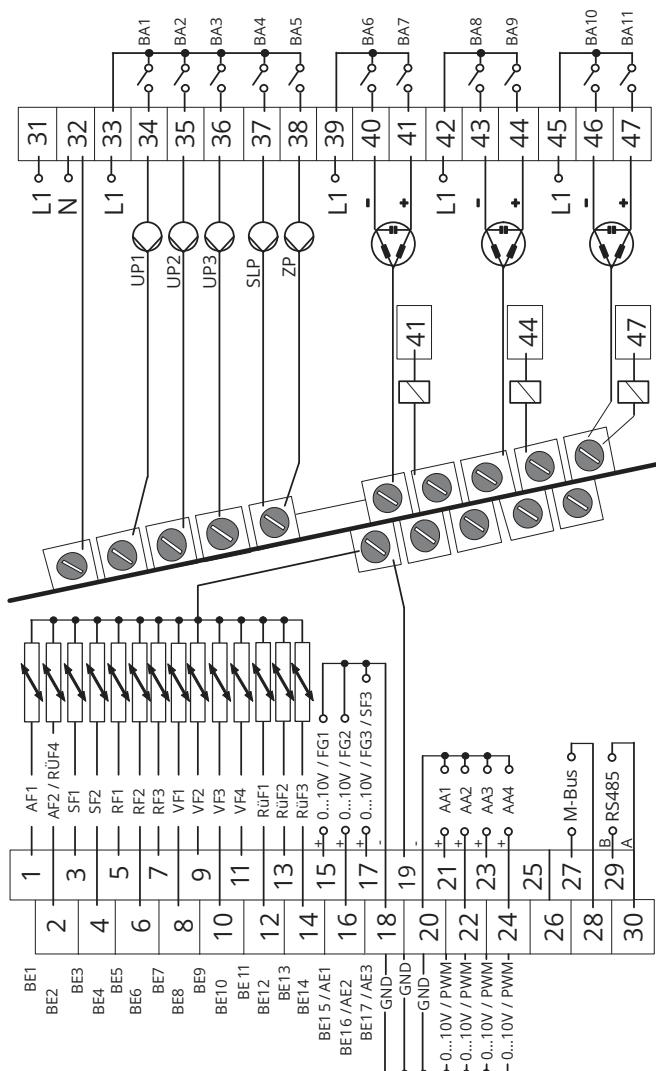
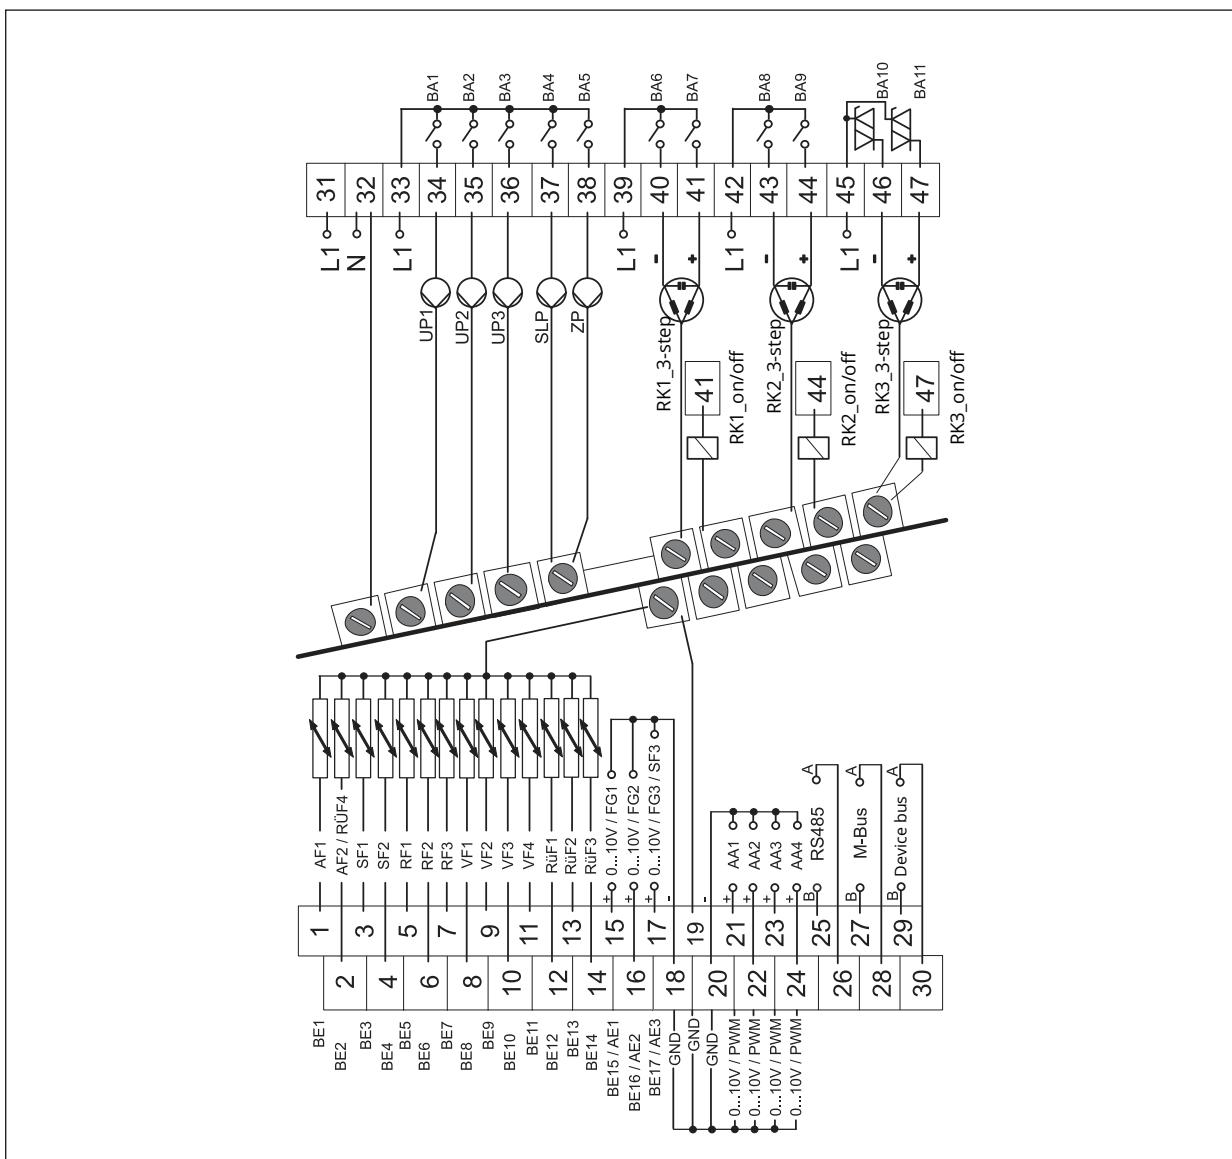

Fig. 3: Electrical connection · TROVIS 5578-1113
Fig. 4: Electrical connection · TROVIS 5578-1114/TROVIS 5578-1115
- ⇒ Connect the wiring as shown in Fig. 3 or Fig. 4.